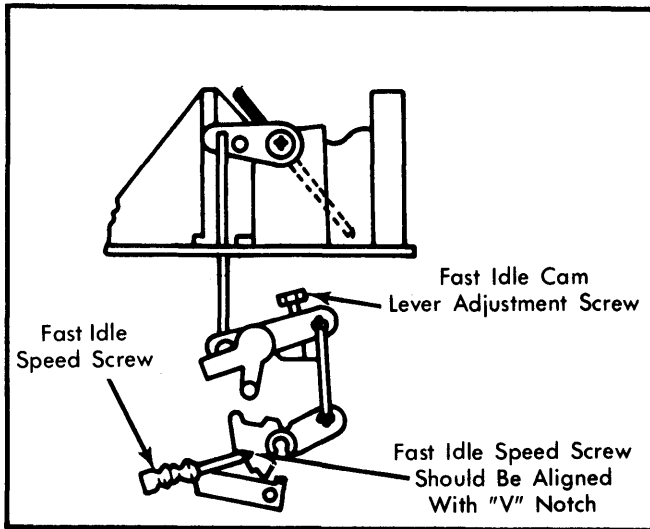

Fig. 5 Adjusting Fast Idle Cam Linkage
- 1) Loosen choke cover retaining screws. Turn cover $\frac{1}{4}$ turn counterclockwise (rich) to close choke valve. Tighten retaining screws. See Fig. 5.